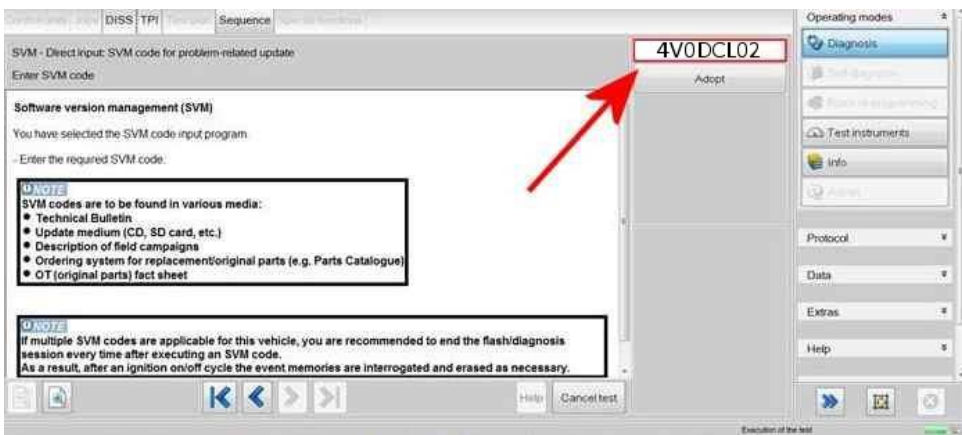

Figure 14
13. On the next screen enter the SVM code 4V0DCL02 and select Adopt (Figure 14)